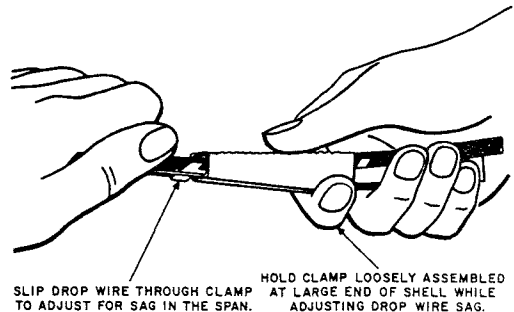

Fig. 11—Adjusting Sag in Drop Wire
**4.05** Slide the assembled shell and shim along the wire to a position where the wedge can be easily inserted into the large end of the shell. Insert the wedge into the shell and hold loosely assembled in one hand while pulling slack in or out of the drop wire through the clamp until the proper sag is obtained. (See Fig. 11). See Section 462-400-200 for stringing sags for drop wire.